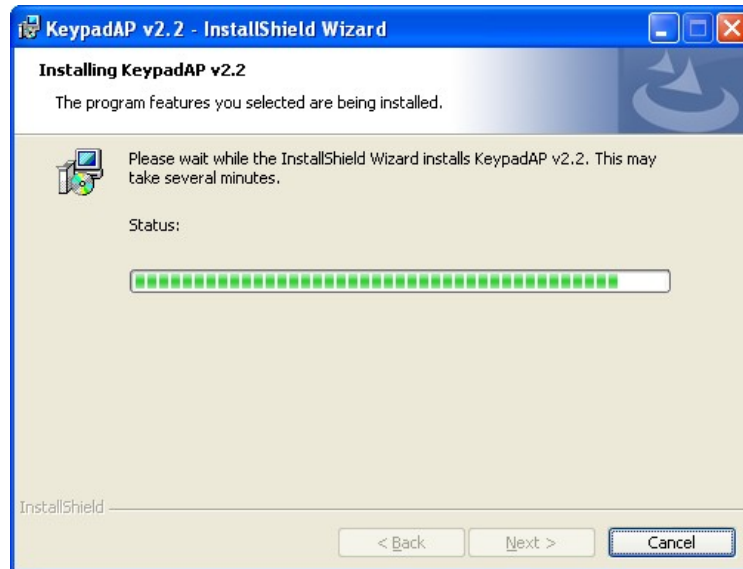

Figure 6-37: Installing KeypadAP v2.2
Step 10: The installation screen appears and displays the progress of the installation (Figure 6-37).